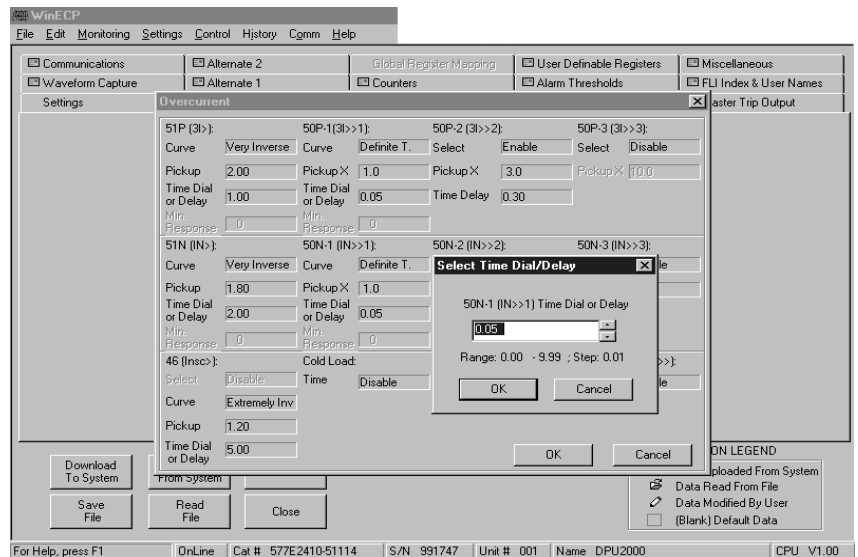

Figure 13-10. Typical Primary Settings for the Bus DPU1500R/2000R
2. Set the 50P-1 and 50N-1 functions in the Primary Settings table as follows (see Figure 13-10):
4. The 50-2 provides local backup protection for failed feeder breakers. If this feature is desired, set the time delay in the Primary Settings (Figure 13-10) to 0.3 seconds. The 50-2 element should not be used for backup with feeder